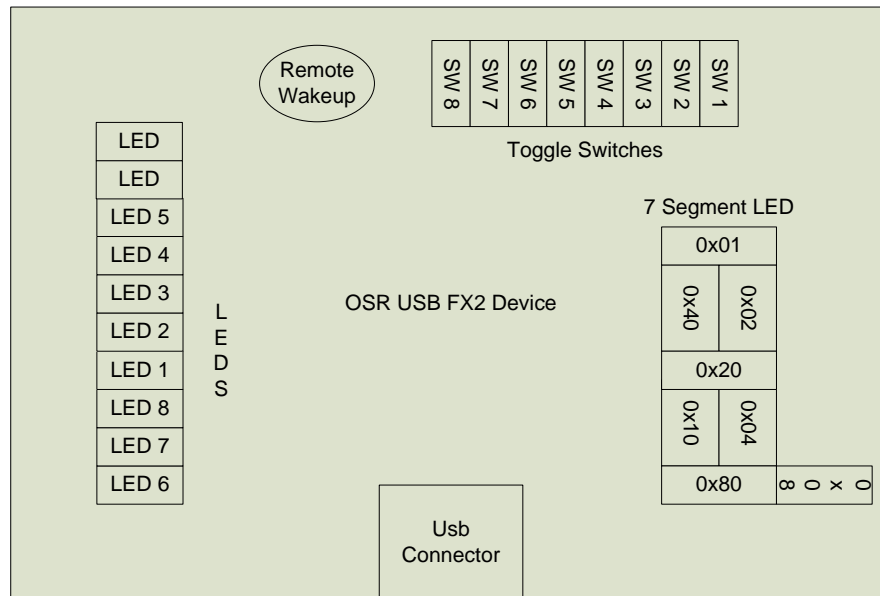

Figure 2 - OSR FX2 Device Layout
Below, Figure 2 gives a general layout of the device, its various LEDs, Switches and Segmented LEDs. The reader should note the numbering on the various LEDs, Switches and Segmented LED because the input and returned bitmasks represent their placement on the device.
- The numbering of the LEDs in the bar graph block is not intuitive. When reading the state of the LEDs a returned value of 0x08, indicates that “LED 1” is on, whereas a returned value of 0x10, indicates that “LED 2” is on. The numbering shown in Figure 2 should make this clear. In case you didn't see it mentioned above, the top 2 LEDs in the bar graph aren't connected to anything... so you won't be able to light them.
- The switch numbers, as addressed by the device firmware, are reversed from the number printed on the switch pack on the board. For example, a returned value of 0x01 indicates that Switch 1 is toggled, even though it is numbered “8” on the switch pack on the board. Again, the numbering shown in Figure 2 shows the actual number used by the firmware.
- For the 7-segment display, the hex values shown in Figure 2 correspond to the value to be passed to the board to light the indicated segment of the display. For example, to display a "1" in the display, you'd want to light the two right-most vertical display segments. To light these two segments, send the value 0x6, which is 0x02 (to light the top right-most vertical bar) OR'ed with 0x04 (to light the bottom right-most vertical bar). If you're wondering what the funny little block with the value 0x08 is on diagram, it's for the decimal point. So, actually, it's an 8-segment display, isn't it.